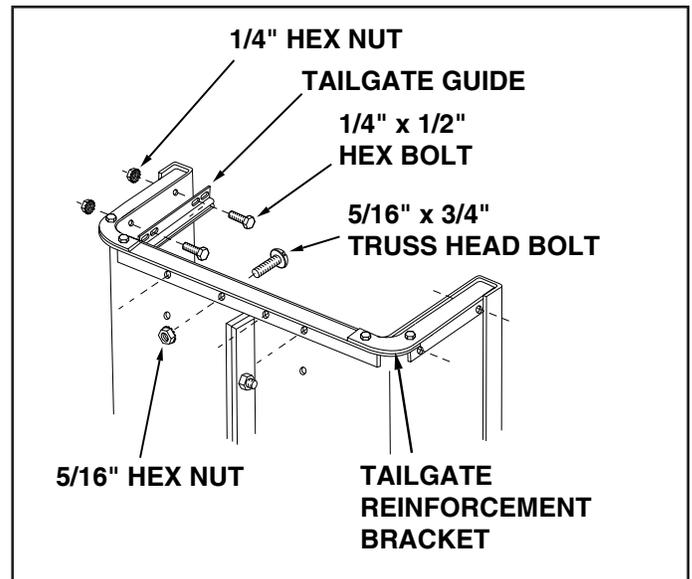

FIGURE 2
5. Position the tailgate reinforcement bracket on outside of cart as shown in figure 2. Assemble to the bottom of the cart body using four 5/16" x 3/4" truss head bolts and 5/16" hex nuts. **Do not tighten yet.** See figure 2.
6. Position the tailgate guides on the inside of the cart bodies with guide channels to the front as shown in figure 2. Assemble using four 1/4" x 1/2" hex bolts and 1/4" hex nuts. **Do not tighten yet.** See figure 2.